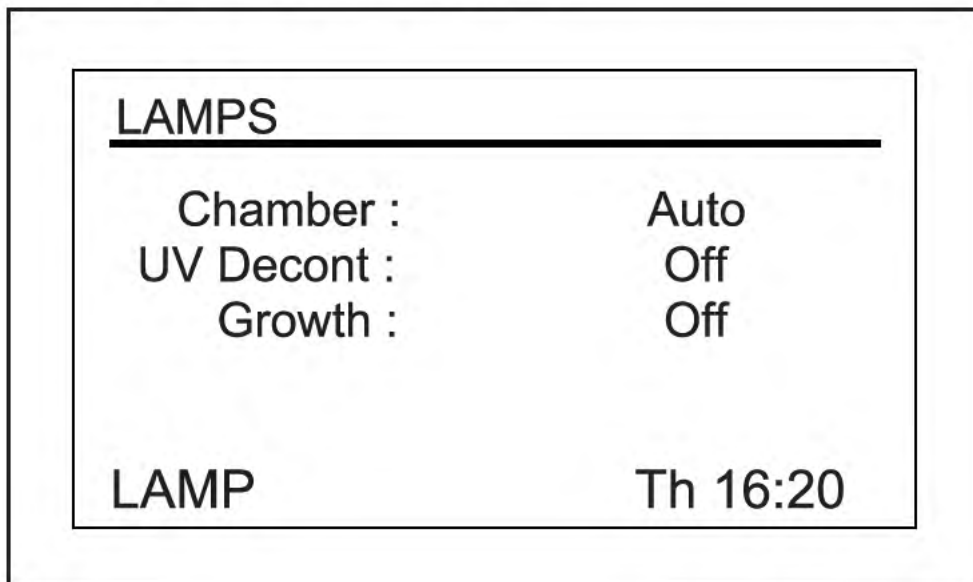

Fig. 9-6: Lamps screen
In this screen (see Fig. 9-6 on p. 56), you can turn the chamber light (*Chamber*), the optional UV germicidal (decontamination) lamp (*UV Decont*) and the optional photosynthetic growth lamps (*Growth*) on and off. *On* means the light is always on, and *Off* means the light is always off, unless you add additional programming (see *Program the shaker on p. 60*).
The current setting will flash (in the sample screen, we will use the *Chamber* light as an example (see Fig. 9-6 on p. 56)).
2. Turn the knob left or right until the desired mode setting appears (*Auto* in this example (see Fig. 9-6 on p. 56)).